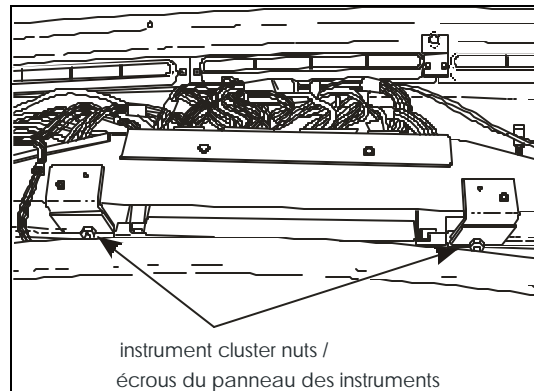

FIGURE 1
5. Remove the nuts fixing the instrument cluster to the dashboard housing (figure 1).